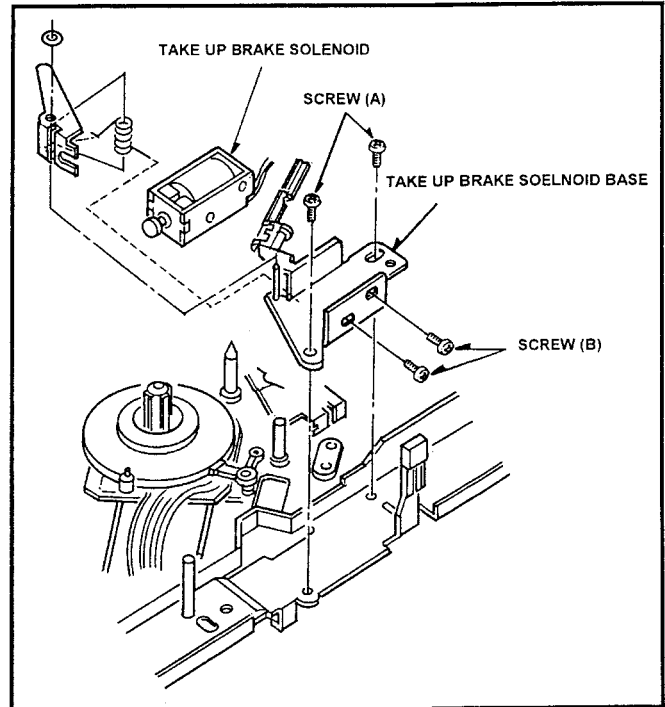

Fig. 6-11-1 Removal of Take Up Brake Solenoid
6. Unscrew the 2 screws (A) and remove the Take Up Brake Solenoid Base Unit as shown in Figure 6-11-1.
7. Unscrew the 2 screws (B) and remove the Take Up Brake Solenoid from Take Up Brake Solenoid Base Unit as shown in Figure 6-11-1.
Note: Hang on the Take up Brake Spring as shown in Figure 6-11-1.